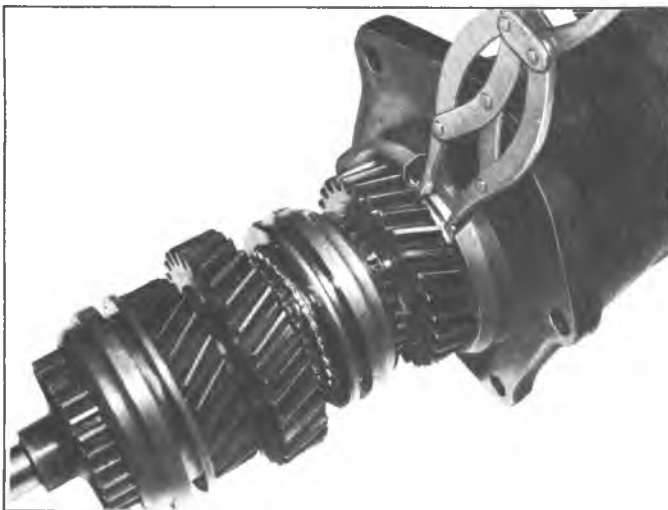

Fig. 2A--Extension to Rear Bearing Snap Ring
7. Using snap ring pliers, expand the snap ring in the extension which retains the mainshaft rear bearing (fig. 2A) and remove the extension.
4. Using snap ring pliers, expand the snap ring in the extension and assemble extension over rear of mainshaft and onto rear bearing. Seat snap ring in rear bearing groove (fig. 2A).